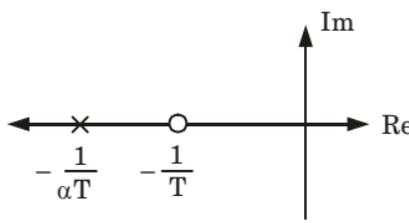

Fig. 19. Pole zero configuration.
4. The pole zero configuration of eq. (2) shown in Fig. 19.